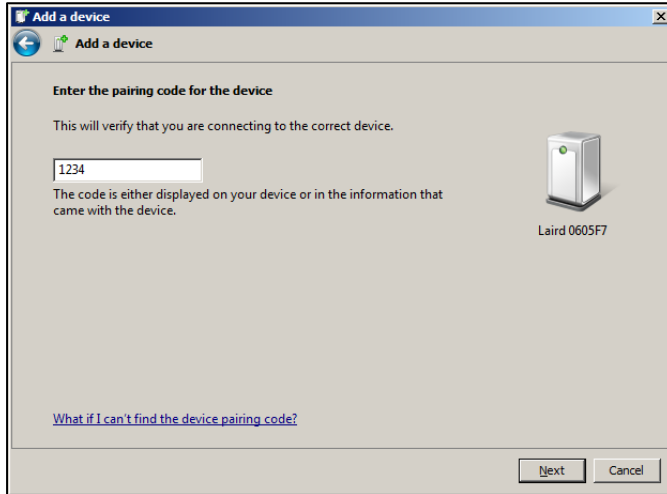

Figure 32: Enter pairing code
- b. Enter *1234* as the pairing code (Figure 32).